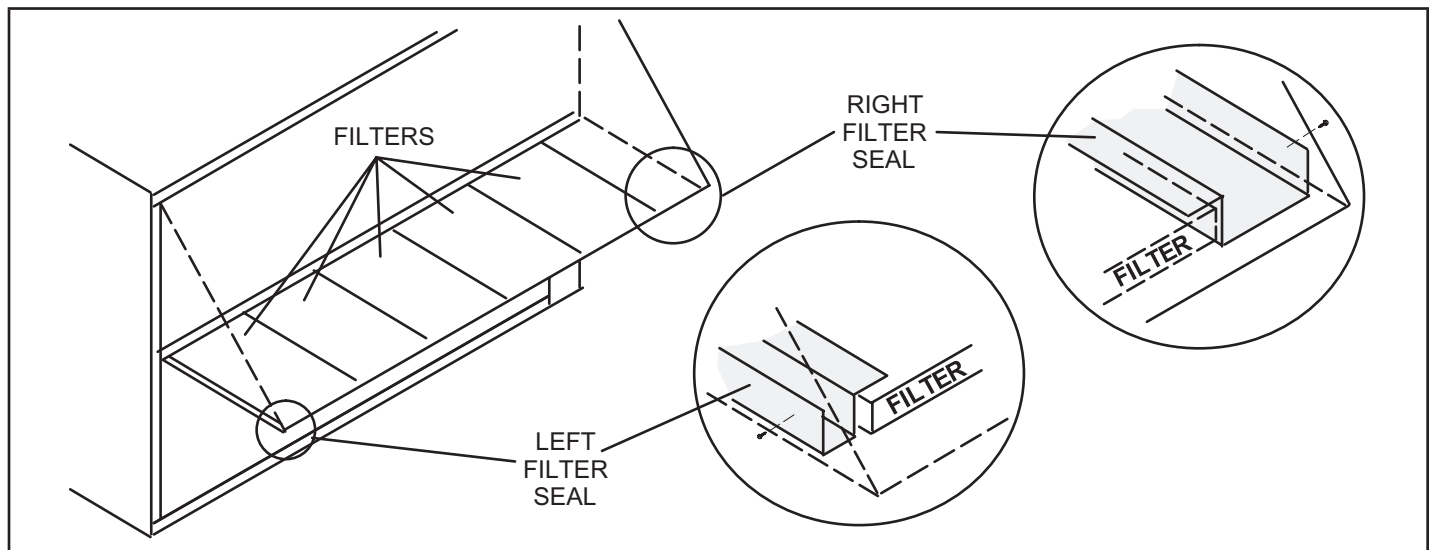

FIGURE 15
- 7 - Secure side seals to the hood sides as shown in FIGURE 15.